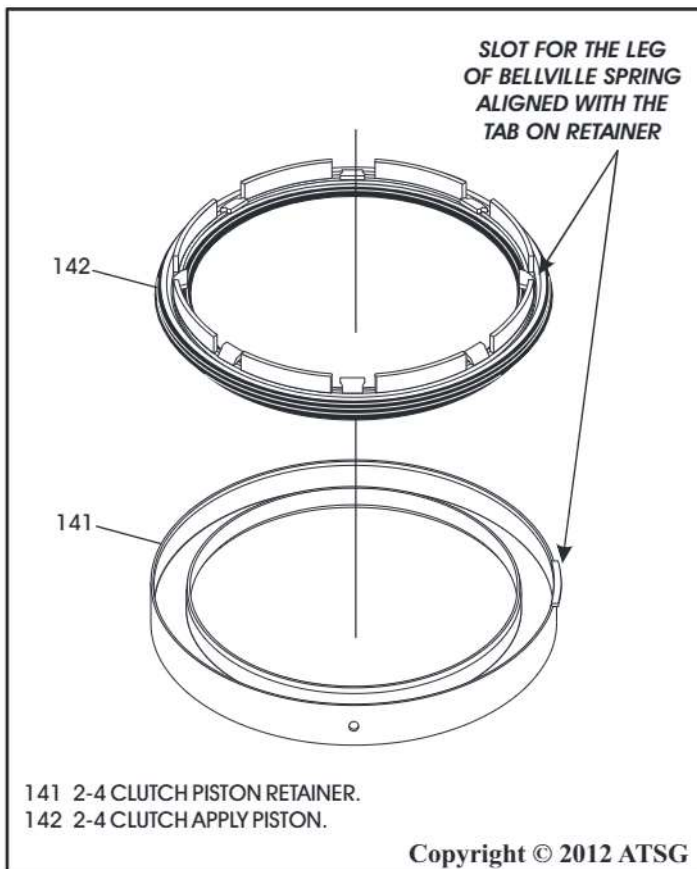

Figure 248
38. Lubricate new 2-4 clutch piston with a small amount of Trans-Jel® and install it into the 2-4 clutch retainer, as shown in Figure 248.
Note: Rotate the piston in the retainer until the slot for one of the legs of the bellville return spring is "perfectly" aligned with the locating tab on the retainer, as shown in Figure 248.